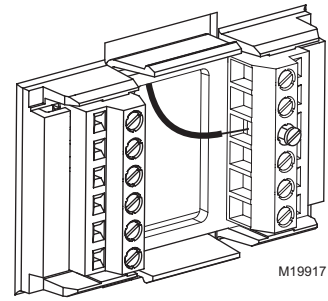

Fig. 10. Insert wires into terminal block.
3. Insert the wires into the terminal block and tighten each screw terminal. See Fig. 10.